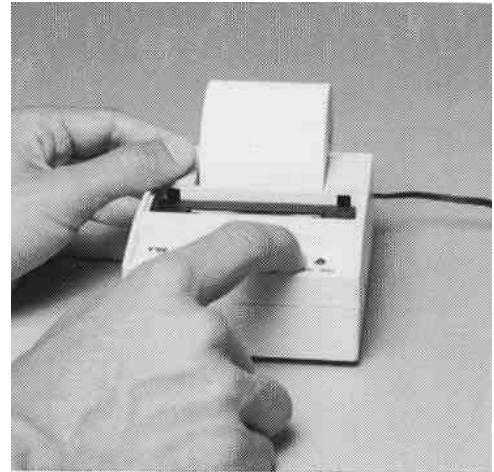

Figure VIII-7. Feeding paper through the printer
Step 5. While holding the paper in place, press the power switch to the PAPER FEED position. A rubber roller then pulls the paper into the printer compartment. Hold the switch in the PAPER FEED position until about 1 inch of paper emerges from the top of the printer mechanism. Then release the power switch (fig. VIII-7).